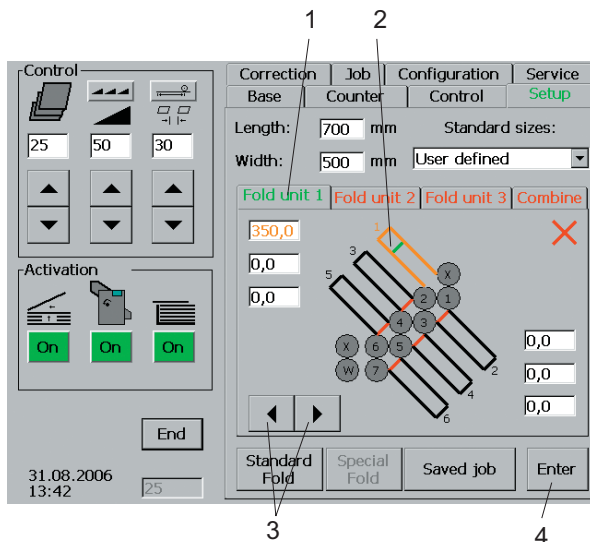

Fig. 25 Special fold
1. Select the desired fold unit by touching the tab (Fig. 25/1) (script colour changes).
2. Touch the fold plate (Fig. 25/2) to be set (fold plate and matching display window turn orange).
3. Touch the *arrow* key (Fig. 25/3) until the setting value is reached.
4. Touch the *Enter* key (Fig. 25/4) when you have made the settings in all fold plates. The automatic adjustment is activated by touching the *Enter* key.